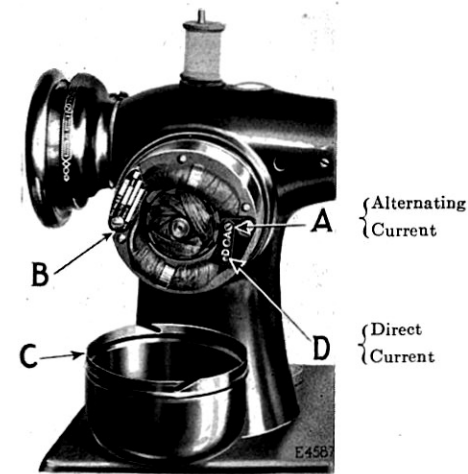
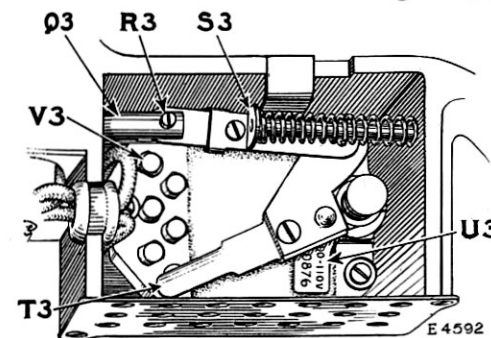

FIG. 5. ADJUSTMENT OF MOTOR
FIG. 10. SHOWING CONTROLLER RESISTANCE
2. What is the voltage? This must not vary more than 10% from the voltage stamped on the name plate (B, Fig. 5, page 5) of the motor.
Remove the motor cover (C, Fig. 5) by turning it toward the balance wheel, and the windings of the motor are exposed.
If the motor is to be operated on alternating current, the round-head brass screw in the terminal plate should be inserted in the top hole marked "A" in Fig. 5, and firmly tightened.
If the motor is to be used on direct current, the round-head brass screw should be inserted in the bottom hole marked "D" in Fig. 5, and firmly tightened.
5. Remove the cloth plate as instructed on page 20, and observe whether the contact finger (T3, Fig. 10, page 11) of the controller bears firmly on the contact buttons and that it makes a good connection with the contact button (V3, Fig. 10) when the knee lever is pressed as far to the right as it will go. If it does, the trouble is not in the controller.
7. Controller circuit open. Note whether the contact finger (T3, Fig. 10, page 11) makes good contact on the various buttons of the controller.
To reach the controller connections (O3) remove the cloth plate as instructed on page 20, then take out the headless screw (R3, Fig. 10), slide the connecting rod (Q3, Fig. 10) away from the controller box and lift out the driving lever and spring (S3, Fig. 10). Then take out the three screws which hold the controller resistance in place and lift out the controller resistance. When replacing the headless screw (R3) be sure to have the unthreaded hole in the end of the connecting rod (Q3) at the top.
Fig. 10 shows the normal position for the contact finger (T3) when the motor is at rest. While in this position, the contact finger rests on a dead contact button so that the electric current is not transmitted to the motor. To prevent short-circuiting of contact buttons by metal particles worn off by friction between contact finger and buttons, the spaces between the buttons should be brushed out occasionally.
See that the marking on the name plate of the controller resistance (U3, Fig. 10, page 11) corresponds with that on the motor name plate (B, Fig. 5, page 5). If both are marked the same, try another controller. If the second controller operates satisfactorily, return the first controller to the factory for inspection.
Remove the motor cover (C, Fig. 5, page 5) from the motor frame, also remove the cloth plate from the machine as instructed